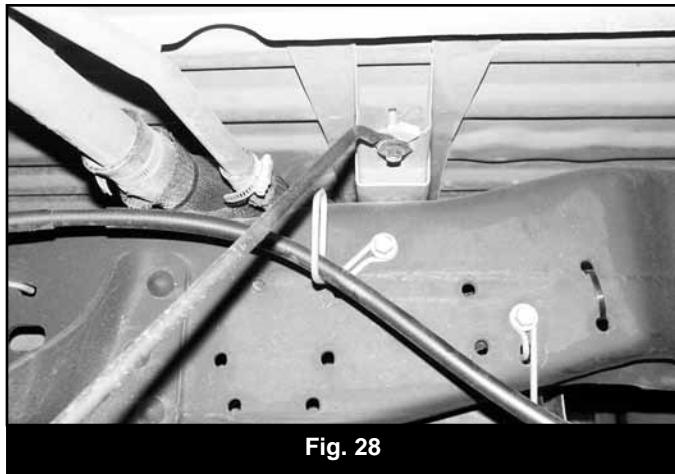

Fig. 28
74. If more parking brake cable slack is needed, remove the cable from the rear-most retaining bracket on the frame. (Fig 28)